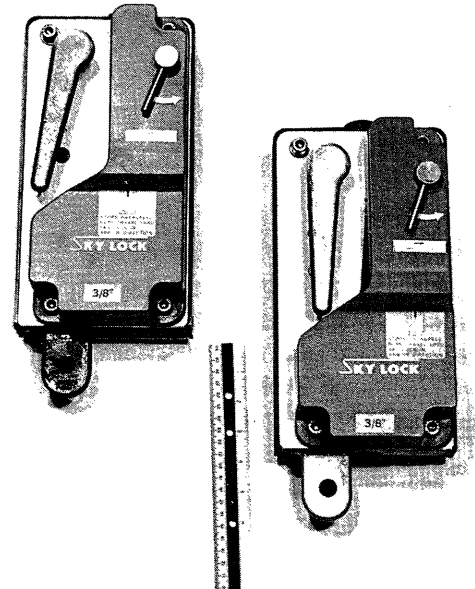

Figure 5.4
3. Raise the Sky Lock brake up the wire rope approximately 12" and release it (let it drop). The Sky Lock brake should trip and lock onto the rope after a fall of not more than 4". (See Figure 5.4.)